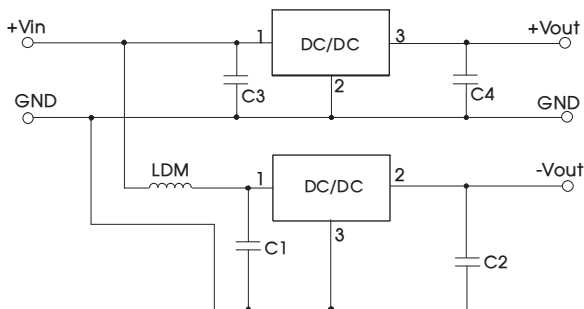

Fig. 3 Positive and negative output application circuit
4. When using configurations as shown in figure 3, we recommended to add an inductor (LDM) with a value of up to 10μH which helps reducing mutual interference;